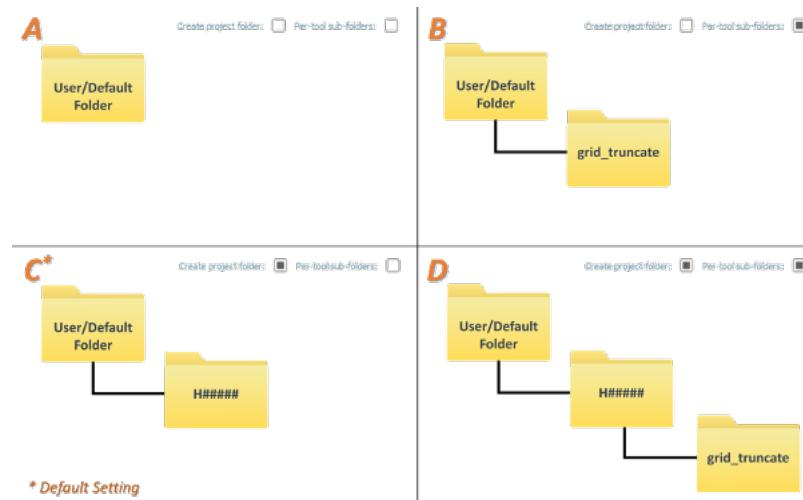

Fig. 2.71: The resulting folder structure based on the four available combinations of output flags.
- No flags set (see Fig. 2.71, pane A). The outputs are stored directly under the default or user-defined location.
- Only the **Per-tool sub-folders** flag set (see Fig. 2.71, pane B). The outputs are stored in a tool-specific sub-folder (in the default or user defined-location).
- Only the **Create project folder** flag set (see Fig. 2.71, pane C). The outputs are stored in a survey folder (in the default or user defined-location). *This is the default setting.*
- Both flags set (see Fig. 2.71, pane D). The outputs are stored in tool-specific sub-folders in a survey folder (in the default or user defined-location).